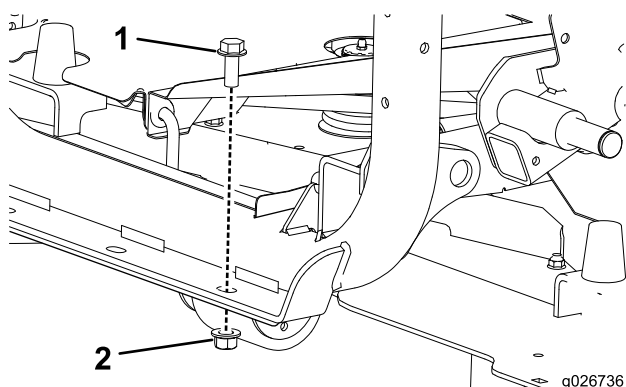

Figure 23
1. On the right side of the machine, remove the nut and the bolt securing the rear frame to the front frame (Figure 23).